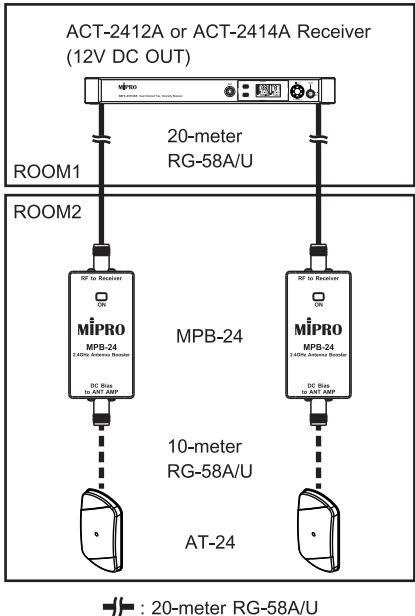

Fig. 2
1. General Environment. Fig. 2: